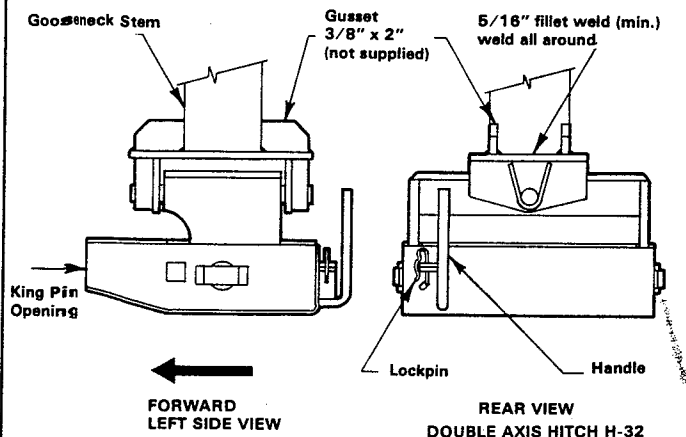
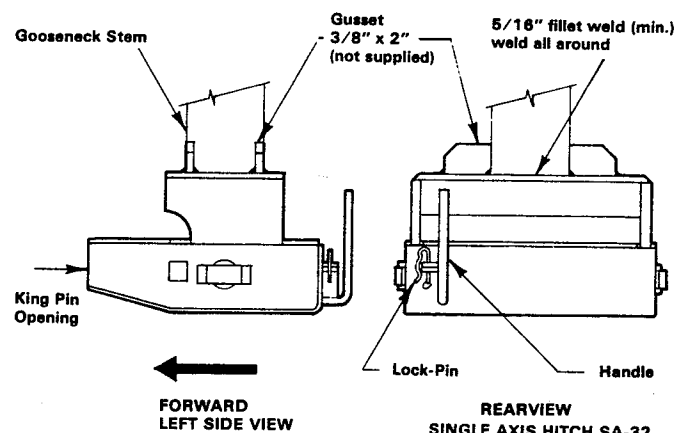

Figure 1
Figure 2
1. Hitch, when purchased without stem, is completely assembled and ready for welding to the gooseneck stem of the trailer. Refer to Figure 1 or Figure 2 for aid in the installation.